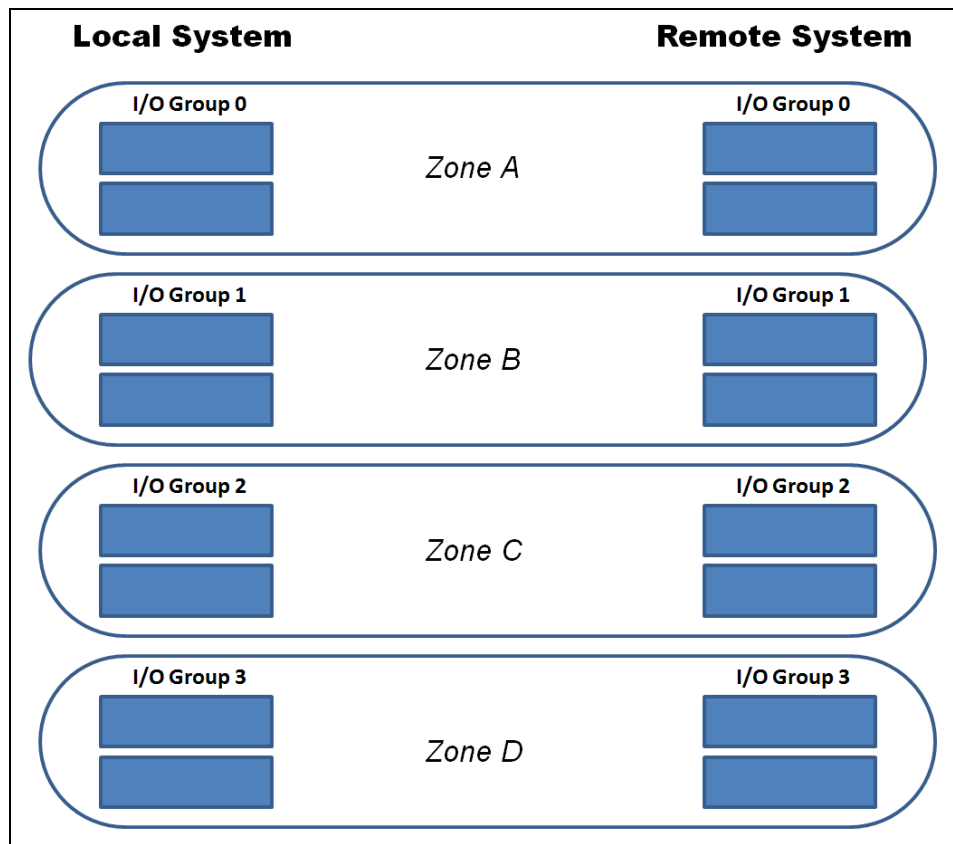

Figure 5-20 Zoning scheme for >80 ms remote copy partnerships
- ▶ For Metro Mirror and Global Mirror configurations where the round-trip latency between systems is more than 80 milliseconds, apply SAN zoning to provide separate intrasystem zones for each local-remote I/O group pair that is used for replication, as shown in Figure 5-20.